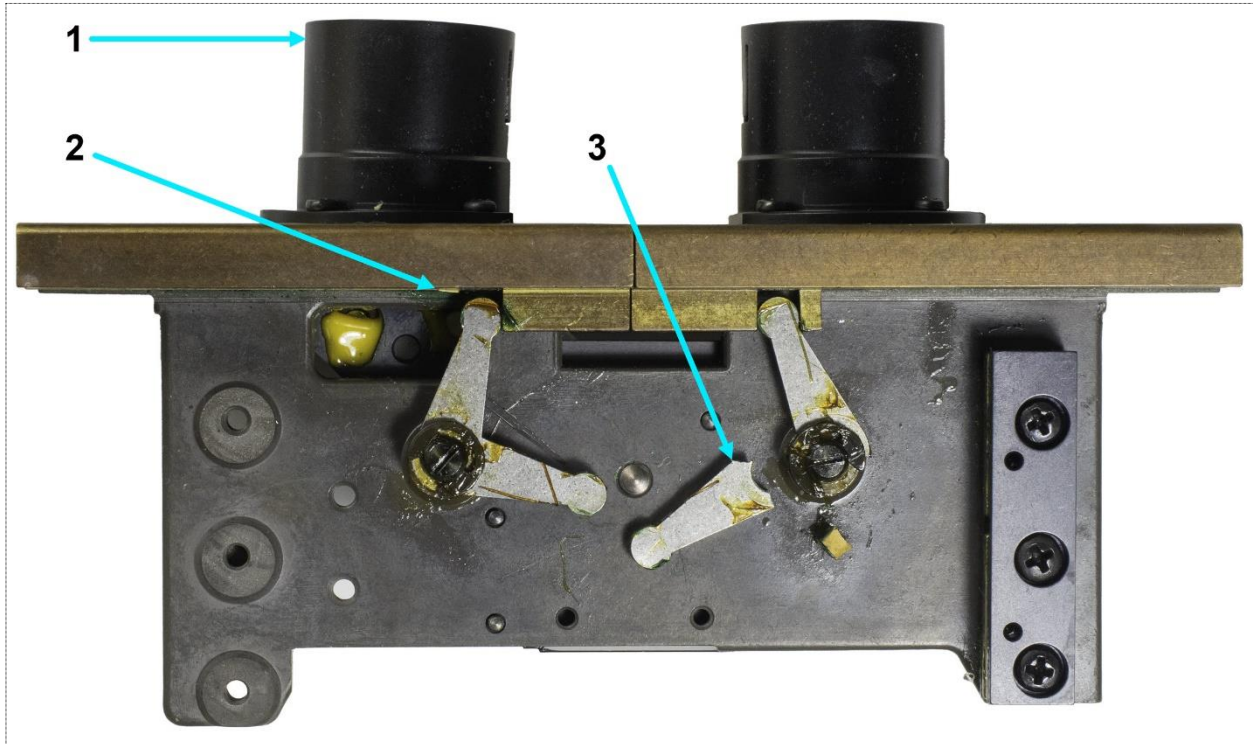

Figure 2: Examples of irreparable mechanical damage on an FSA head:
- Damage due to shocks and blows. With its heavy prisms and protruding eyepiece tubes the head is vulnerable to rough handling. Shipping damage due to reckless parcel handling and inadequate packaging is common and typically result in broken mechanism parts (Figure 2) and/or dislocated or even chipped prisms (Figure 3 and Figure 4.) Such damage is difficult or even impossible to repair. Similar damage may also of course happen if a head accidentally has been dropped on the floor. Another issue is eyepiece tubes that, perhaps inadvertently, have been bumped out of collimation resulting in double vision in the microscope. Eyepiece miscollimation can however often be adjusted.